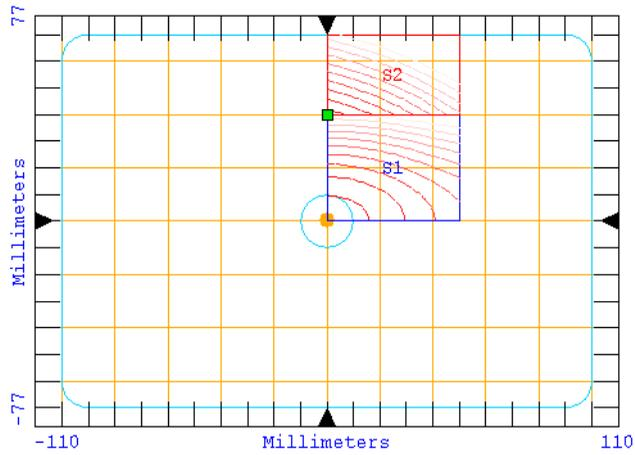

Figure 1.19 Reflector view following creation of second segment
- 1 Create a second rectangular segment, starting at (0,40) with the opposite corner at (50,70). The reflector view should now look like Figure 1.19.